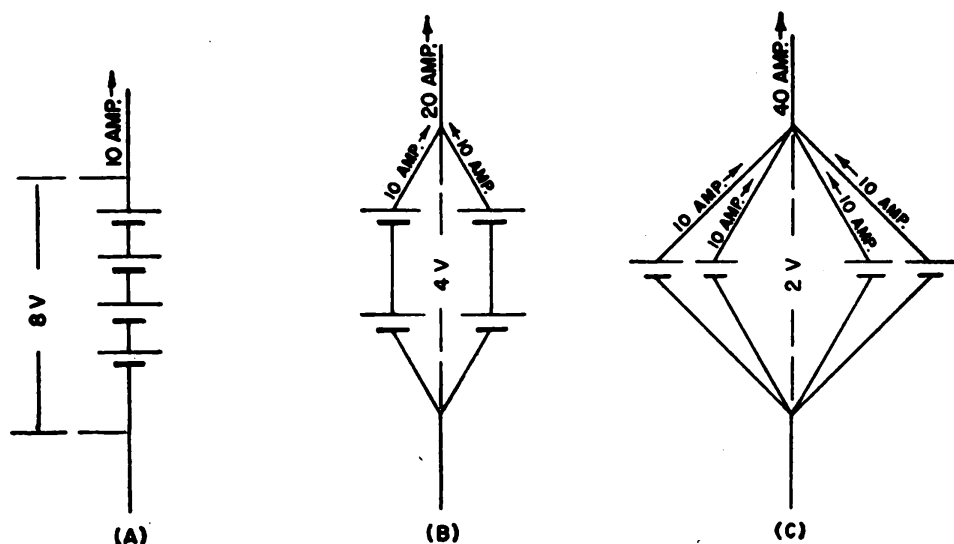

Figure 90.—Series, series-parallel, and parallel circuits.
Now use this battery illustration to explain armature conductors. In figure 90, four 2-volt batteries, with a current rating of 10 amperes each, are con-
nected in SERIES, SERIES-PARALLEL, and PARALLEL. In figure 90 (A) the four cells are connected in SERIES, giving a voltage of 8 volts and supplying a current of 10 amperes to the load. In figure 90 (B), the batteries are connected in SERIES-PARALLEL. Now the voltage will be 4 volts but there are two paths for the current to flow. The total current now being supplied to the load is 20 amperes. Each side of the series-parallel branch applies 10 amperes.
In figure 90 (C), the four batteries are connected in PARALLEL. Now the voltage is 2 volts but there are four paths for the current to flow. In this case the total current will be 40 amperes. But in each case there is a total power of 80 watts supplied to the external circuit. The power rating is independent of the manner in which the connections are made.